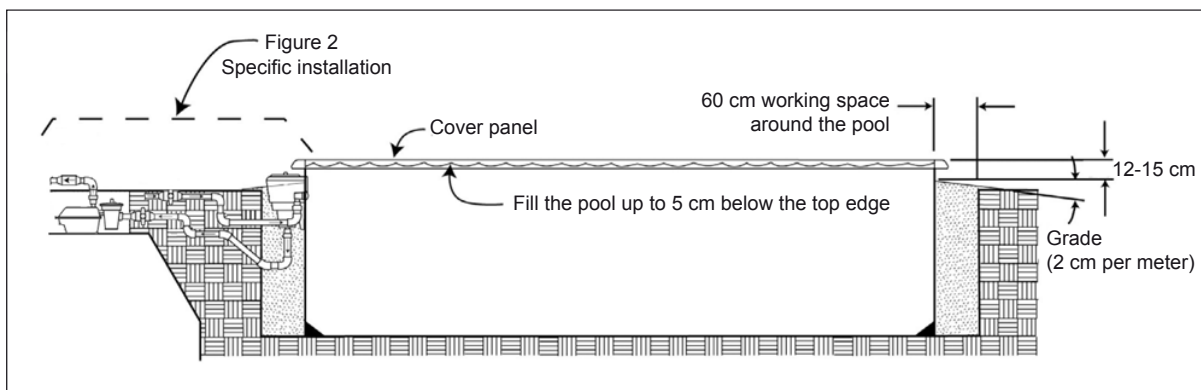

FIG. 1 - CONSTRUCTION PROVISIONS WHEN A POOL IS EXCAVATED
2. The depth of the excavation is dependent on the height of the pool and desired terrace. Use the size such as seen in Figure 1 to calculate how deep the excavation should be.